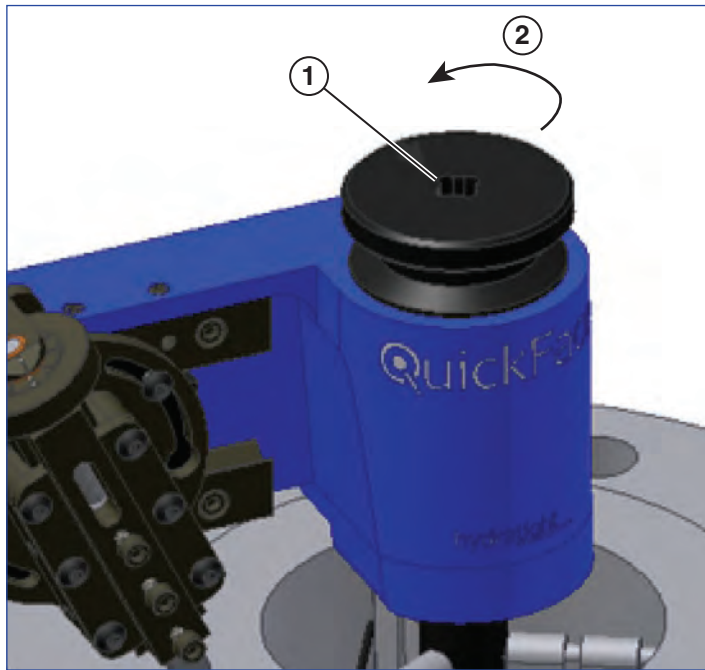

Figure 15
11. If the surface meets the desired results, remove the machine by turning the mandrel locking knob counterclockwise (see **Figure 15**). If the surface needs to be cut again, repeat steps 4 – 11 until complete.